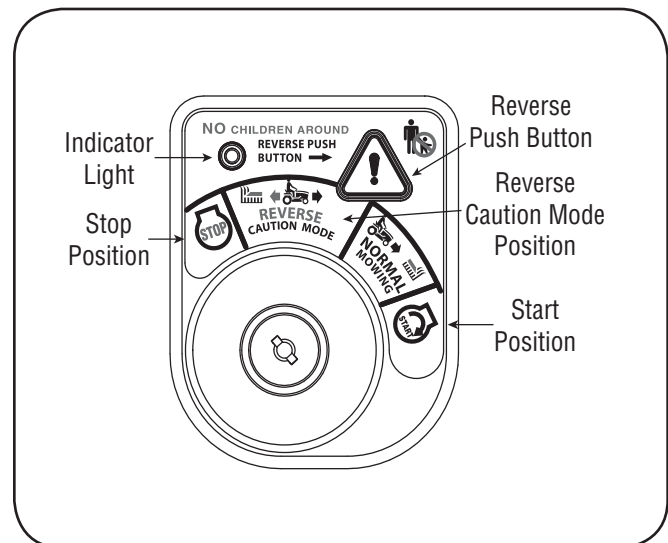

Figure 5-1
2. Turn the key from the NORMAL MOWING (Green) position to the REVERSE CAUTION MODE (Yellow) position of the key switch module. See Fig. 5-1.
3. Depress the REVERSE PUSH BUTTON (Orange, Triangular Button) at the top, right corner of the key switch module. The red indicator light at the top, left corner of the key switch module will be ON while activated. See Fig. 5-1.